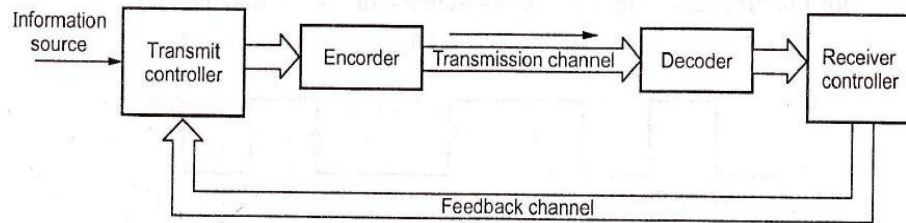

Fig. 6.2.6 ARQ scheme
- Each retransmission adds one round trip time of latency. Therefore ARQ techniques are not used where low latency is desirable. Fig. 6.2.6 shows the scheme of ARQ error correction scheme.